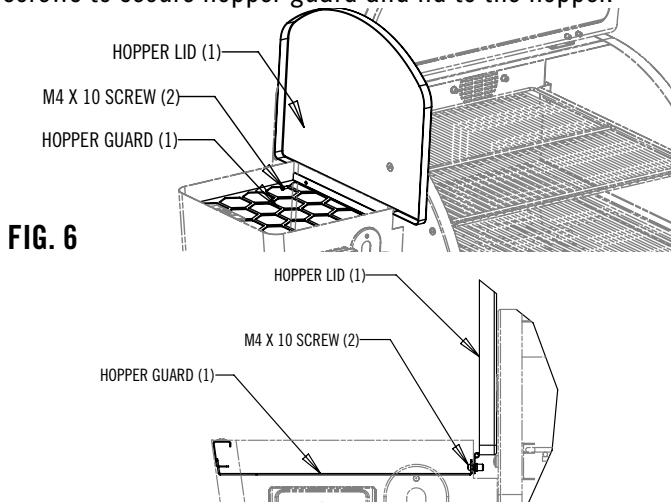

FIG. 6
1. Install guard and lid as shown in Fig. 6. The tab on the hopper should be inserted into the slot on the guard. Use screws to secure hopper guard and lid to the hopper.